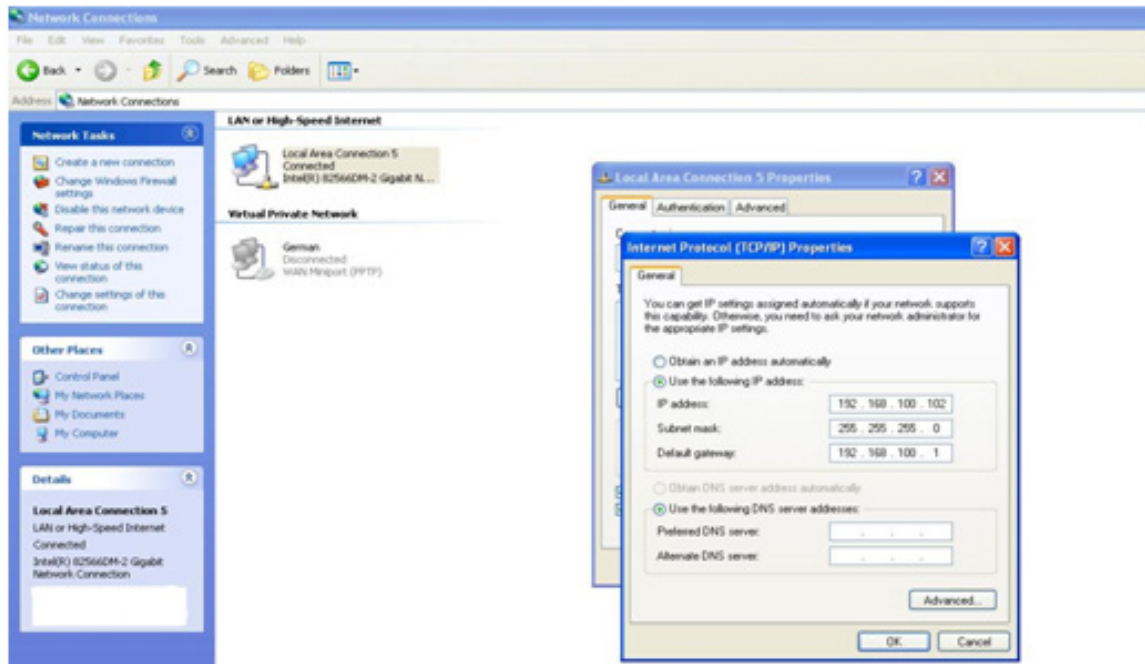

Figure 5-4. Configuring CMM, Choose Protocol
4. Manually configure the IP address of the computer system to be in the same address range as the CMM (see Figure 5-4).